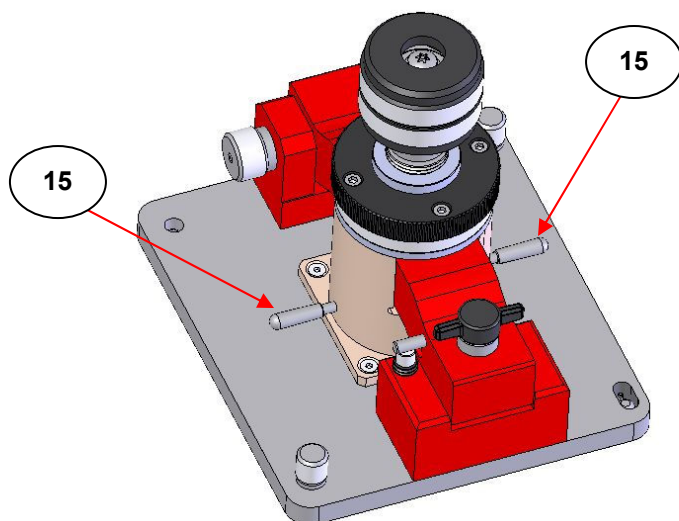

Fig 7. Flow Port Connection Tubes on Heated Envirochamber Golden Gate™ Top Plate
An added feature on the Envirochamber Cap assembly (4) is the inclusion of two flow port connection tubes (15). These 3mm O.D. flow tubes have their own plastic covers which are kept in position on the flow tubes to isolate the Heated Envirochamber Golden Gate™ top plate when being used for environmental containment. (See Fig 7.)